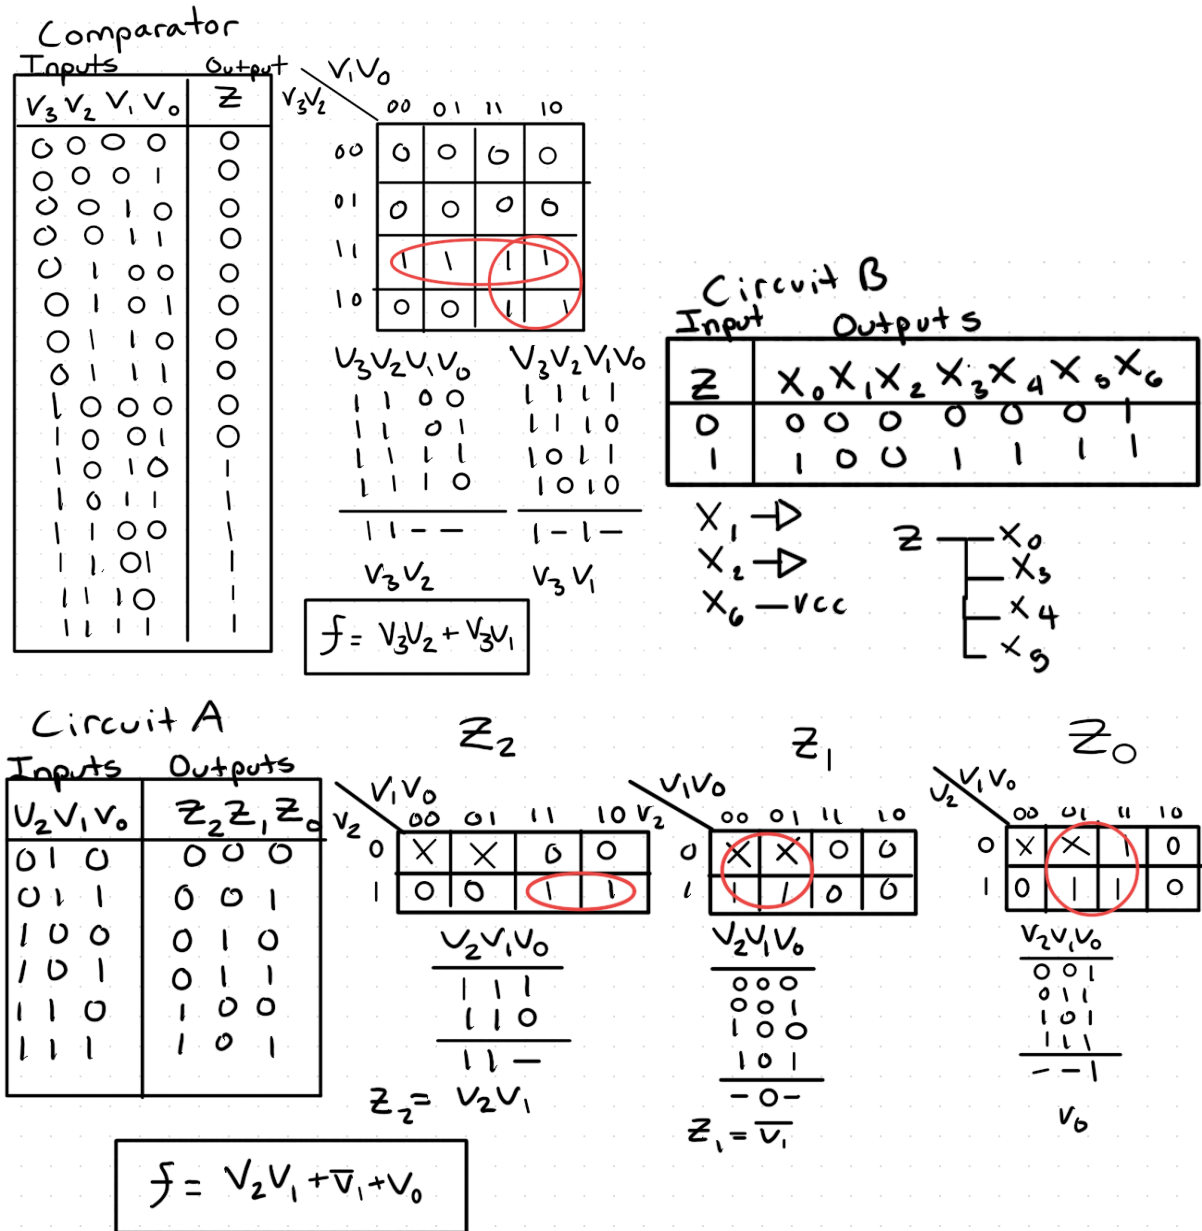

Figure 1: Truth Tables and General Equations
- To begin this section of the Lab I analyzed the behavior of the provided circuit components including the comparator, circuit a, and circuit b. I created truth tables for all of them and, using kmaps, simplified them to their general equations as seen in *Figure 1*. For Z since there was only one input, I simplified by specifying which outputs were always high or always low, and then specified which outputs were directly tied to the input Z.